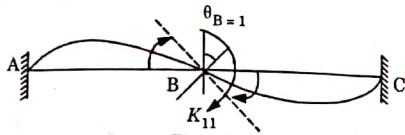

Fig. 26.
- ii. To obtain stiffness matrix  $[K]$ , apply unit displacement in the coordinate direction as shown in Fig. 26.